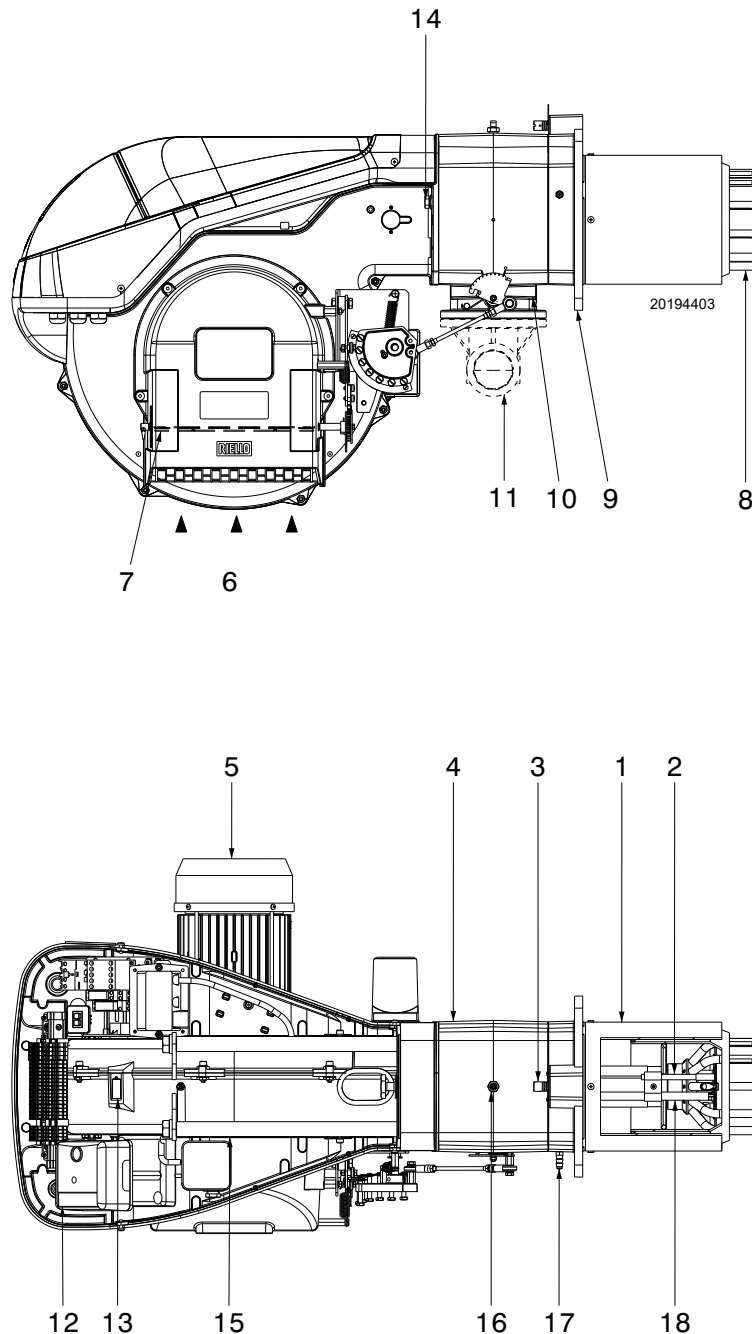

Fig. 5
- (1) Reference conditions: Ambient temperature 20°C - Gas temperature 15°C - Barometric pressure 1013 mbar - Altitude 0 m a.s.l.
(2) Pressure at test point 16)(Fig. 5) with zero pressure in combustion chamber and at maximum burner output.
(3) Sound pressure measured in manufacturer's combustion laboratory, with burner operating on test boiler and at maximum rated output. The sound power is measured with the "Free Field" method, as per EN 15036, and according to an accurate "Accuracy: Category 3" measurement, as described in EN ISO 3746.
if the control box button 12) (**red led**) (Fig. 5) lights up, it indicates that the burner is in lockout.